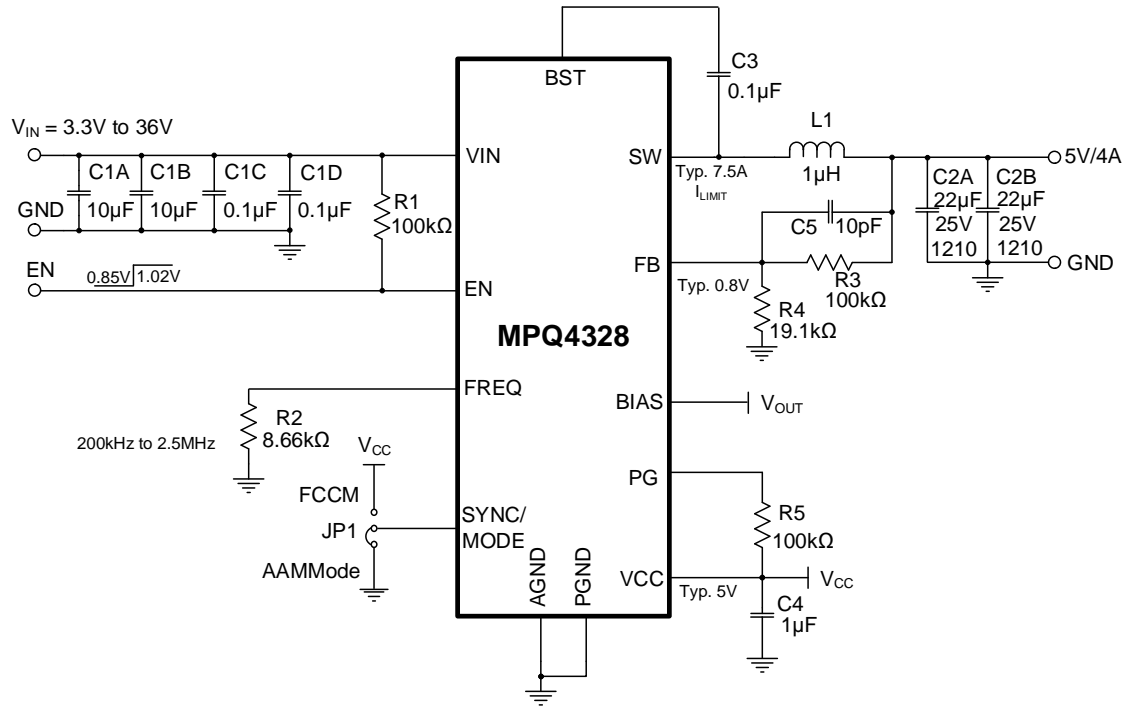

Figure 13: Typical Application Circuit ($V_{OUT} = 5V$, $f_{sw} = 2.2MHz$)
15) The recommended PCB layout is based on Figure 13 on page 44.